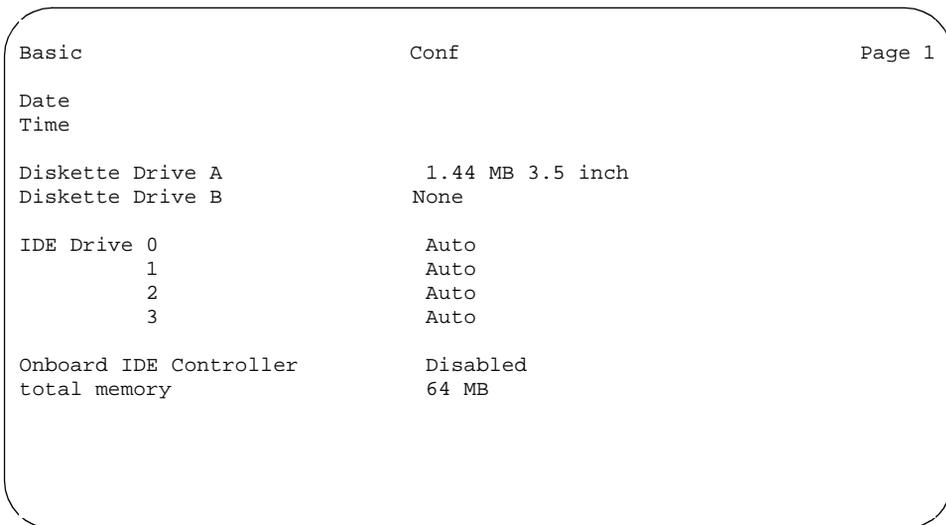
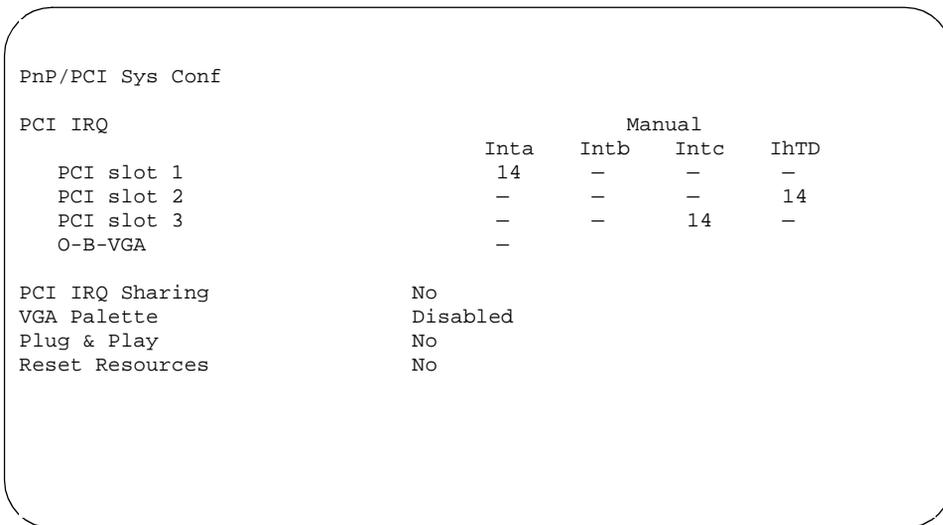

Figure 7-14. Basic CMOS Settings Screen, Page 1
Figure 7-22. PnP/PCI System Configuration Screen
- b. Compare the CMOS settings with those listed in Figure 7-14 through Figure 7-22.